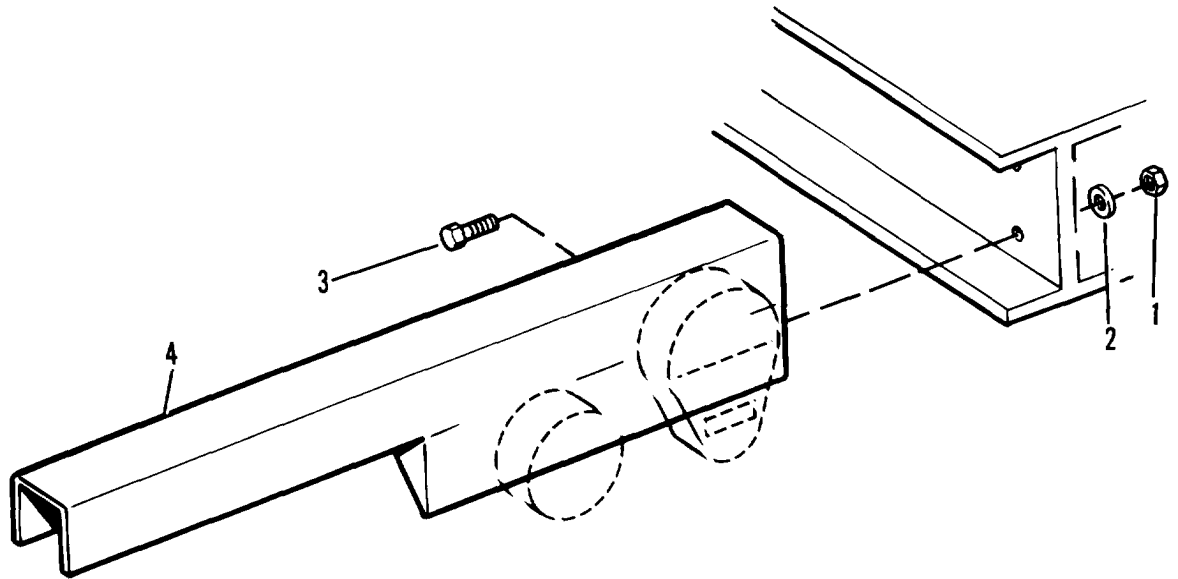

Figure 4-55. Taillight bracket
- (1) Remove two nuts (1, figure 4-55), washers (2) and bolts (3).
- (2) Remove taillight bracket (4).
- (1) Install taillight bracket (4, figure 4-55) and secure with two bolts (3), washers (2) and nuts (1).
- (2) Install splash guard (para. 4-57).
- (3) Install 12 and 24 volt taillights (paras. 4-17 and 4-18).